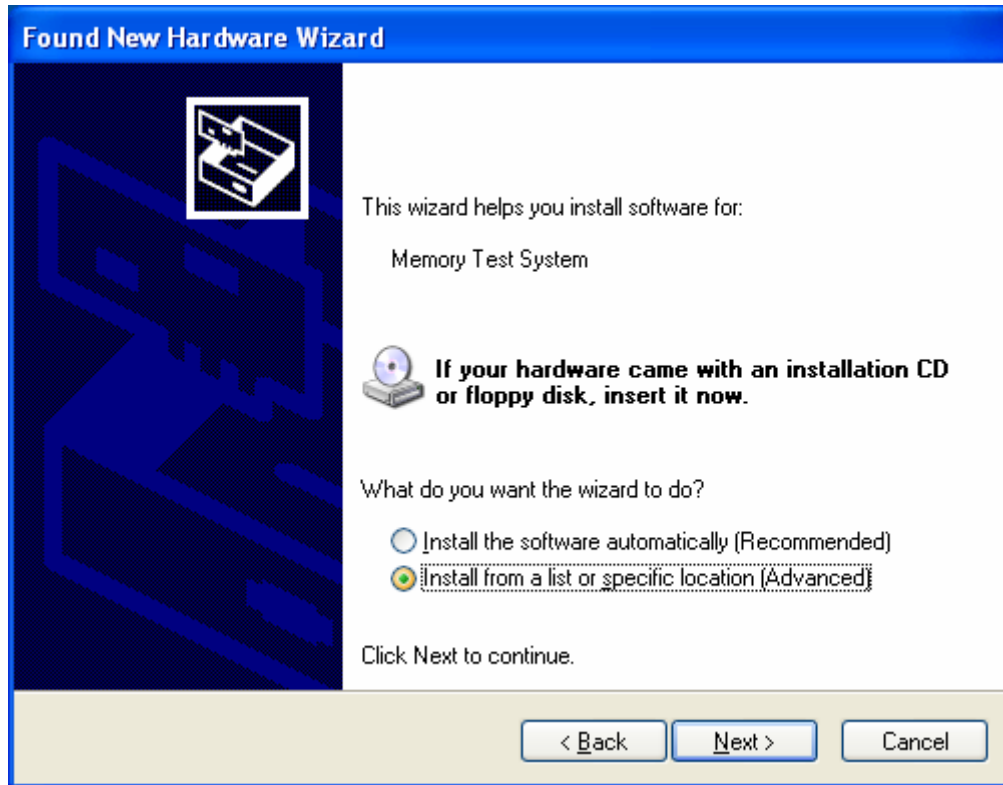

Fig. 04
Step 4: Select “Install from a list or specific location (Advanced)” and click on “Next” button to continue. (Fig. 04)